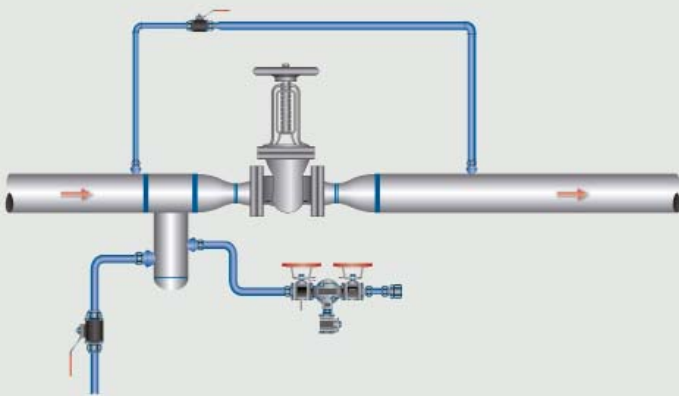

Figure 5: Flow Shock
1. Install and use a warm-up valve, as shown in Figure 5.